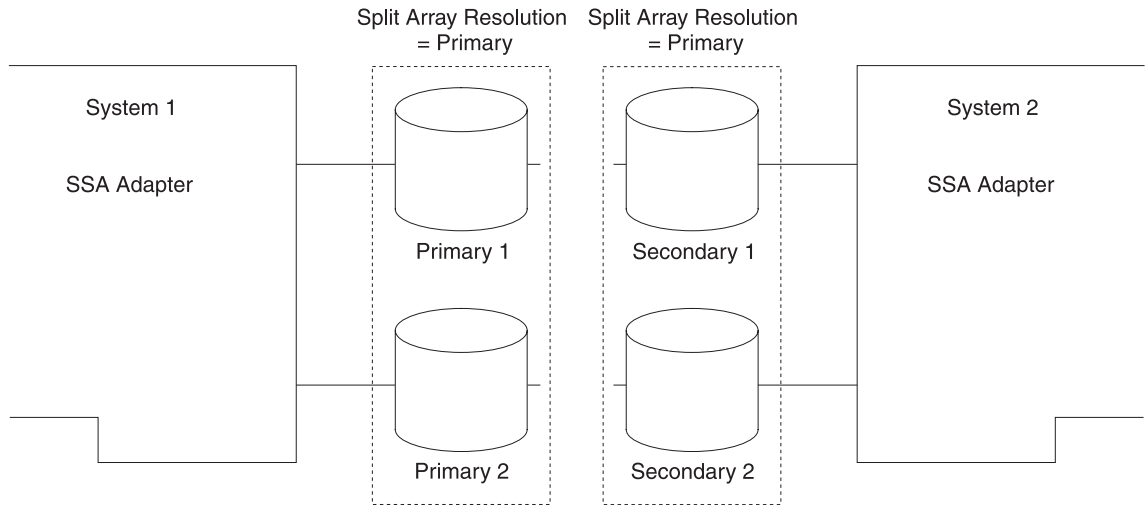

Figure 19. System 1 Split from System 2
**System 1 Split from System 2:** Figure 19 shows system 1 split from system 2.